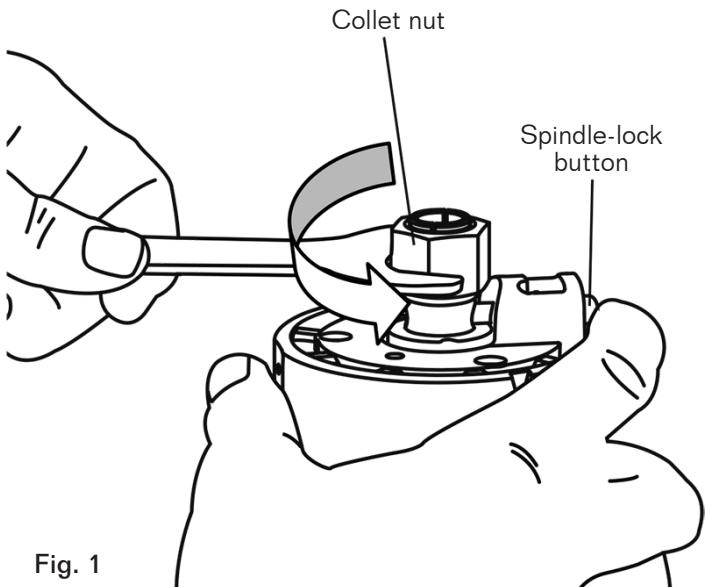

Fig. 1
4. Press the spindle-lock button to engage and lock the spindle shaft and collet nut (FIG. 1).